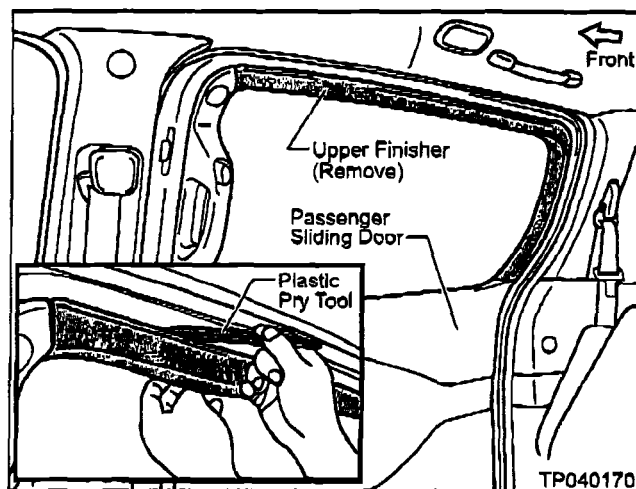

Figure 1
6. Remove the Upper Finisher from the Passenger Sliding Door (see Figure 1).
- Use a **Plastic Pry Tool (J-46534\*** or equivalent) to release the securing clips (see Figure 1).